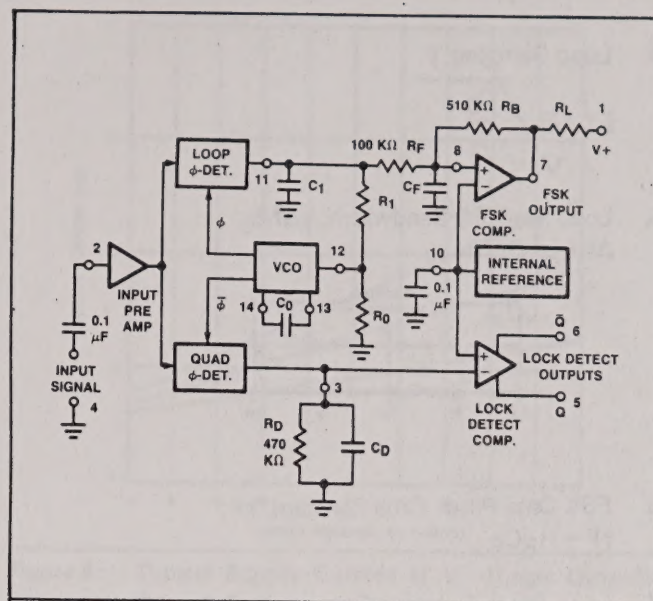

Figure 2: Generalized Circuit Connection for FSK and Tone Detection
**Loop Phase Detector Output** (Pin 11): This terminal provides a high impedance output for the loop phase detector. The PLL loop filter is formed by  $R_1$  and  $C_1$  connected to Pin 11 (see Figure 2). With no input signal, or with no phase error within the PLL, the dc level at Pin 11 is very nearly equal to  $V_R$ . The peak voltage swing available at the phase detector output is equal to  $\pm V_R$ .
(See Figure 2 for definition of components.)
Figure 9 shows the basic circuit connection for FSK decoding. With reference to Figures 2 and 9, the functions of external components are defined as follows:  $R_0$  and  $C_0$  set the PLL center frequency,  $R_1$  sets the system bandwidth, and  $C_1$  sets the loop filter time constant and the loop damping factor.  $C_F$  and  $R_F$  form a one-pole post-detection filter for the FSK data output. The resistor  $R_B$  ( $= 510 \text{ K}\Omega$ ) from Pin 7 to Pin 8 introduces positive feedback across the FSK comparator to facilitate rapid transition between output logic states.
With reference to Figures 2 and 11, the functions of the external circuit components can be explained as follows:  $R_0$  and  $C_0$  set VCO center frequency;  $R_1$  sets the detection bandwidth;  $C_1$  sets the low pass-loop filter time constant and the loop damping factor.  $R_{L1}$  and  $R_{L2}$  are the respective pull-up resistors for the Q and  $\bar{Q}$  logic outputs.